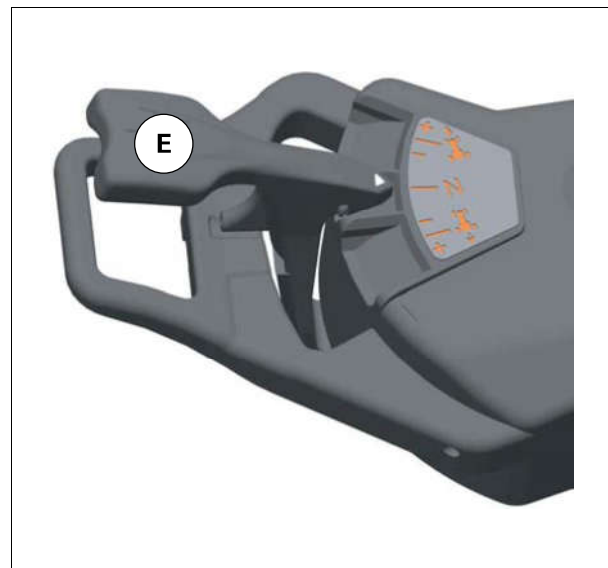

Fig. 5.
1. Check that the transmission is engaged and shuttle lever (E) fig. 5 is in neutral.
3. Move transmission lever (A) to select the desired Powershift ratio, and also press button (D) to shift to a higher or lower range.
3. Place shuttle lever (E) *fig. 5* in forward or reverse travel.
5. Move shuttle lever (E) *fig. 5* to select the range and the desired Powershift ratio.
7. Move shuttle lever (E) back *fig. 5* to neutral.